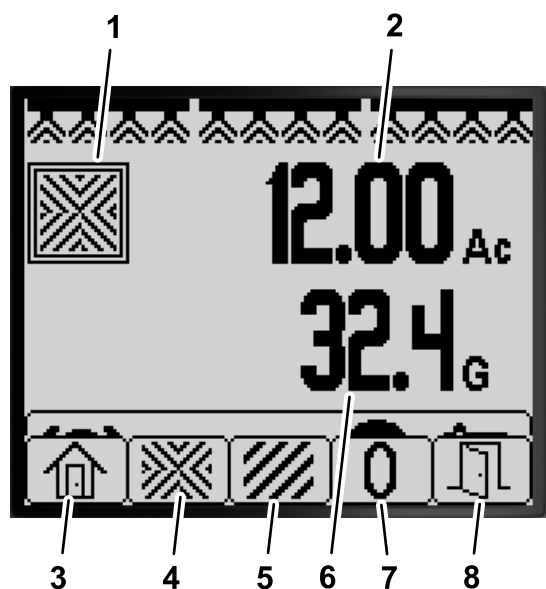

Figure 76
1. From the Home screen, momentarily press and hold any button to open the menu bar (Figure 75 and Figure 76).
- Press button 2 for the Total Area screen (Figure 76).
- Use the InfoCenter buttons (Figure 76) to perform the following actions: